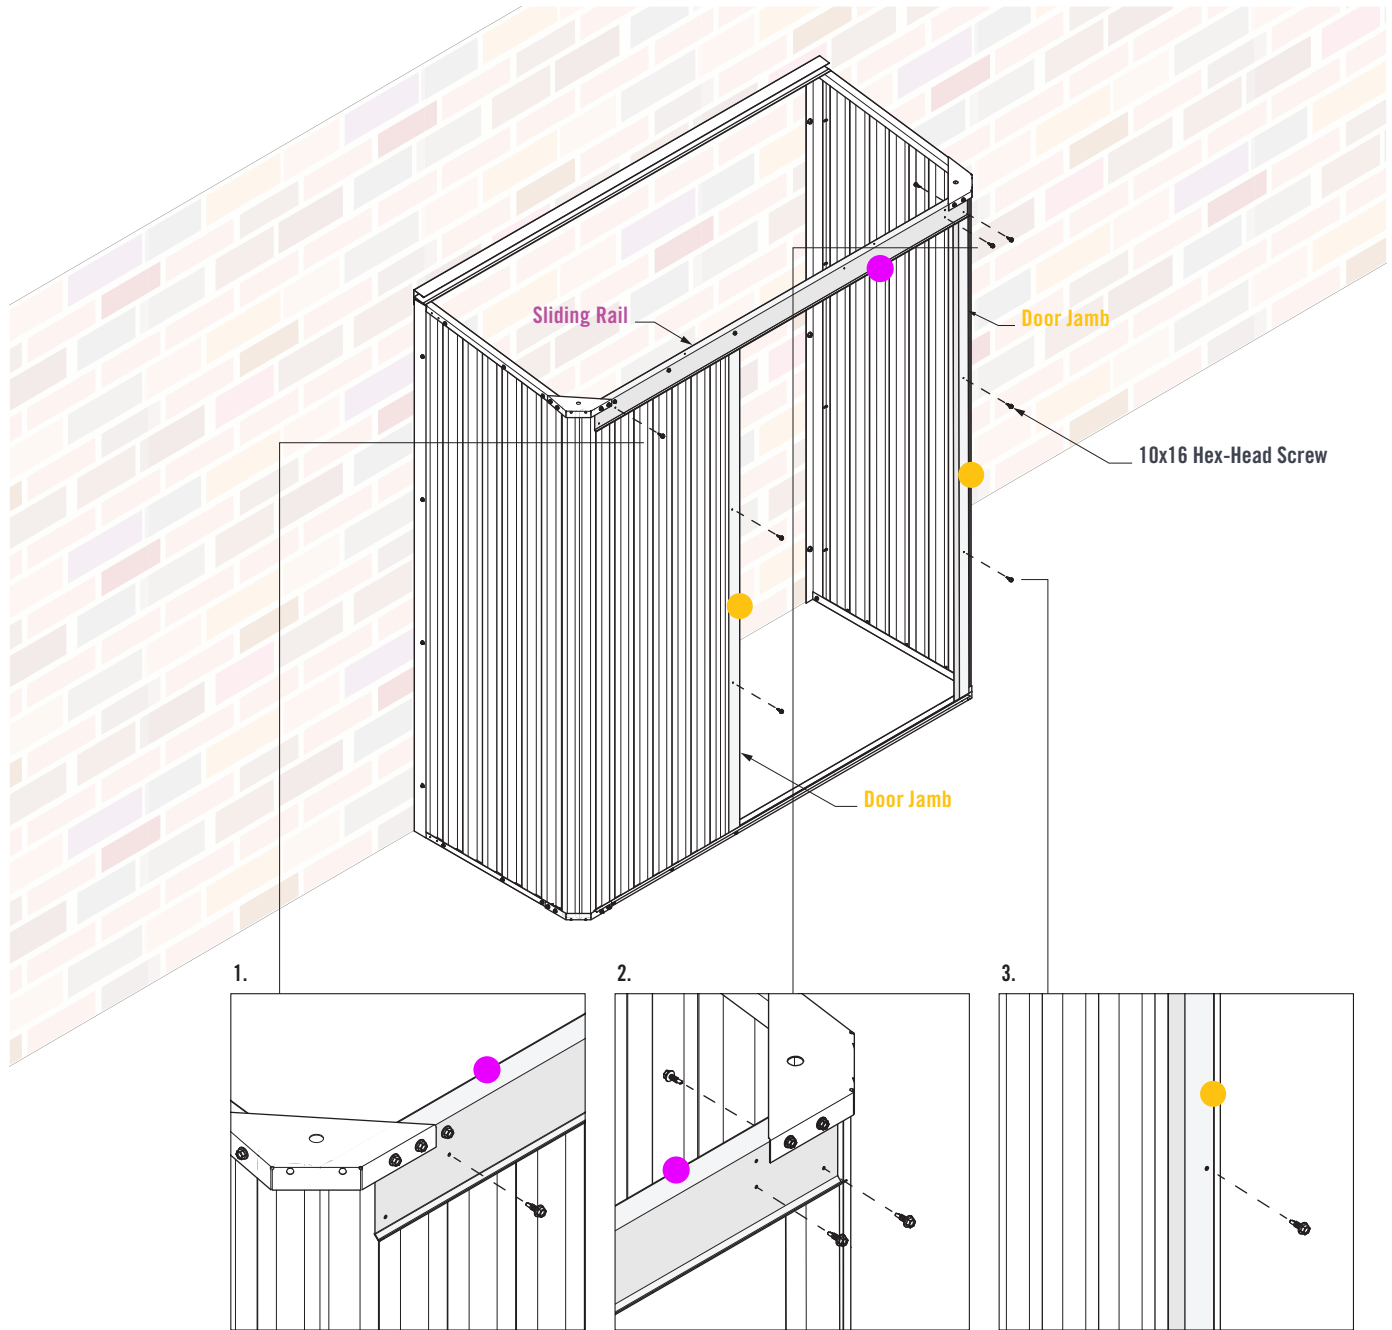

FIGURE 7.2
1. Fasten a 10x16 Hex-Head Screw through the pilot hole of the **Sliding Rail** (Figure 7.2).
2. Fasten three 10x16 Hex-Head Screws through the pilot holes of the **Sliding Rail** (Figure 7.2).
3. Fasten two 10x16 Hex-Head Screws through the pilot holes of both **Door Jambs** and into the Wall Sheets (Figure 7.2).